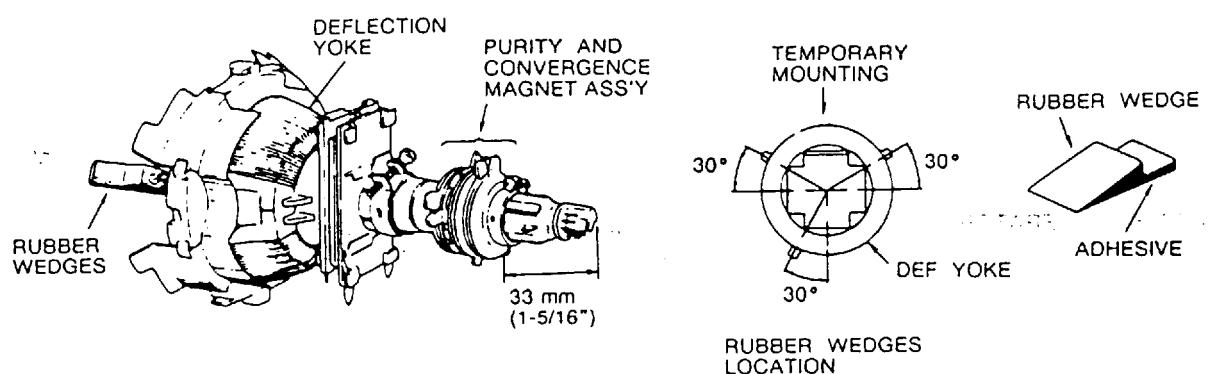

Figure 4.
2. Put a wedge as shown in figure 4. temporally. (Do not remove cover paper on adhesive part of the wedge.)